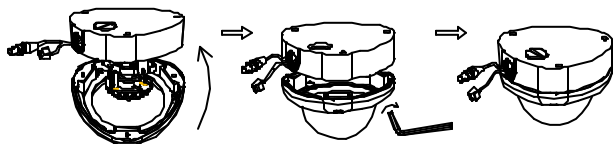

Figure 4
- (5) When the camera focus adjustments has been completed, using the provided L-Wrench to fasten the tamper-resistant housing to the main body (as shown on figure 4).